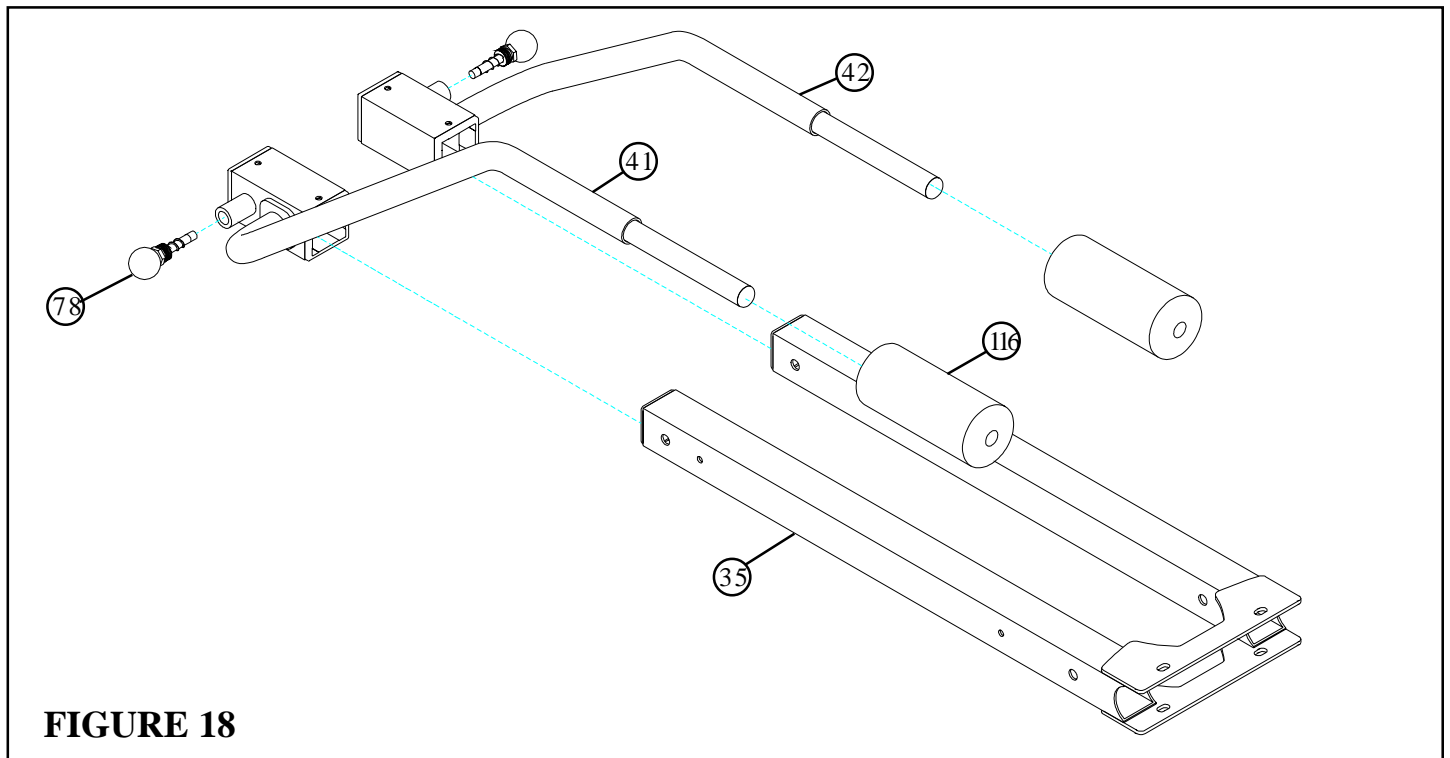

FIGURE 18
- Assemble two SPRING PINS (78) to the RIGHT and LEFT SQUAT ARMS (41 & 42) as shown in FIGURE 18.
- Slide two PRESS ROLLER PADS (116) over the RIGHT and LEFT SQUAT ARMS (41 & 42) as shown in FIGURE 18.
- Pull back on the SPRING PINS (78) and slide the the RIGHT and LEFT SQUAT ARMS (41 & 42) over the PRESS PIVOT (35) as shown in FIGURE 18.